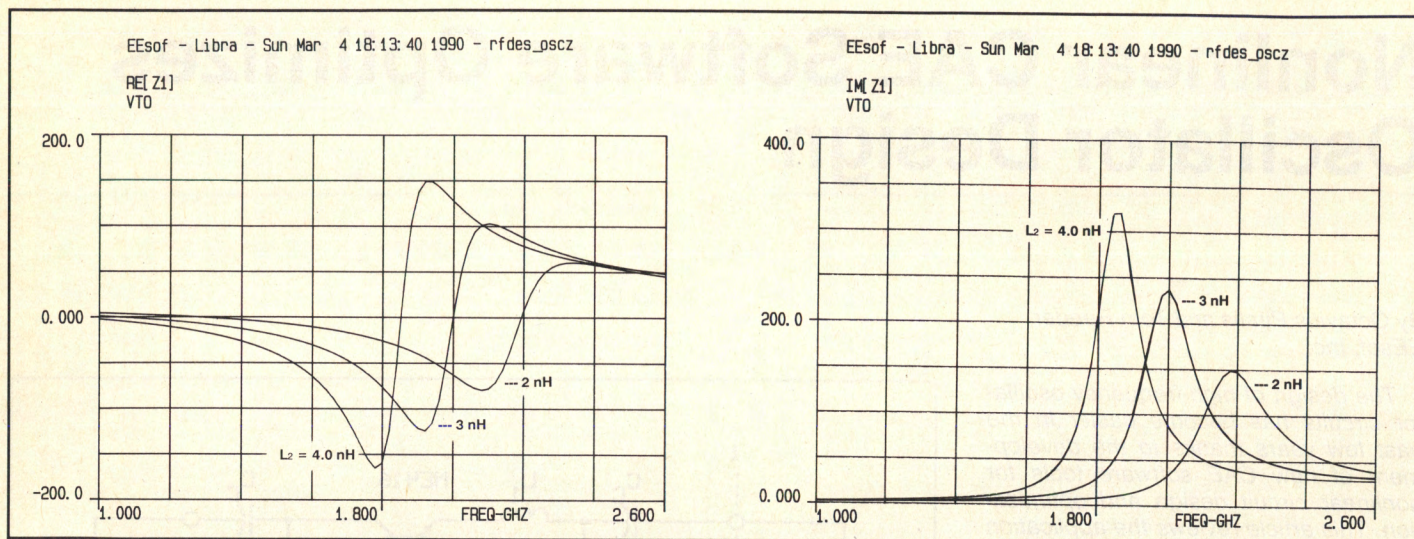

Figure 2. Plots of R_1 and X_1 versus frequency for the 2 GHz oscillator example.
impedance presented by the varactor. The threshold for circuit oscillation occurs when the impedance sum at plane 1-1' is zero (1): $R_V + R_1 = 0$, $X_V + X_1 = 0$. Note that at this point of threshold oscillation, circuit conditions are linear, so a linear CAE simulator like Touchstone can be utilized. While the equations must be precisely satisfied at the exact threshold of oscillation, it is also clear that a linear circuit analysis that finds net negative resistance over the desired frequency range will assure that the circuit is capable of oscillating over that range. Figure 2 shows plots of R_1 and X_1 versus frequency for our assumed circuit example. The simulations show that a net negative resistance is observed as the transistor base circuit inductance L_2 is selected for operation at frequencies in the desired operating range. The use of Touchstone to define oscillation starting conditions in this way is well known and has been documented earlier (2).